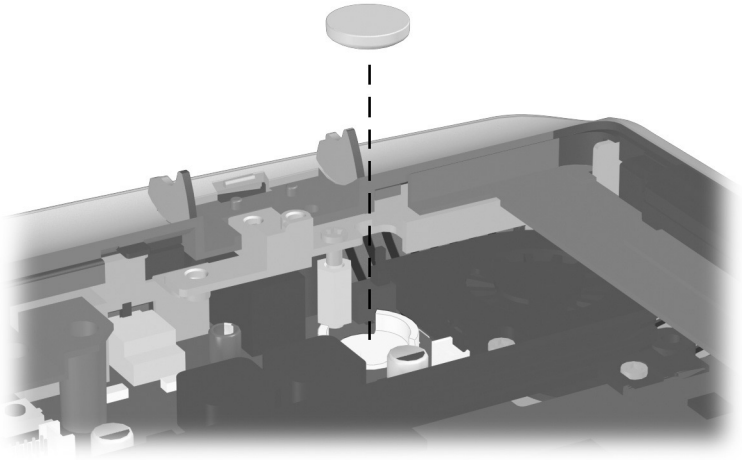

Figure 5-32. Removing the Disk Cell RTC Battery
2. Use a flat-bladed tool to remove the RTC battery from the socket in the system board (Figure 5-32).